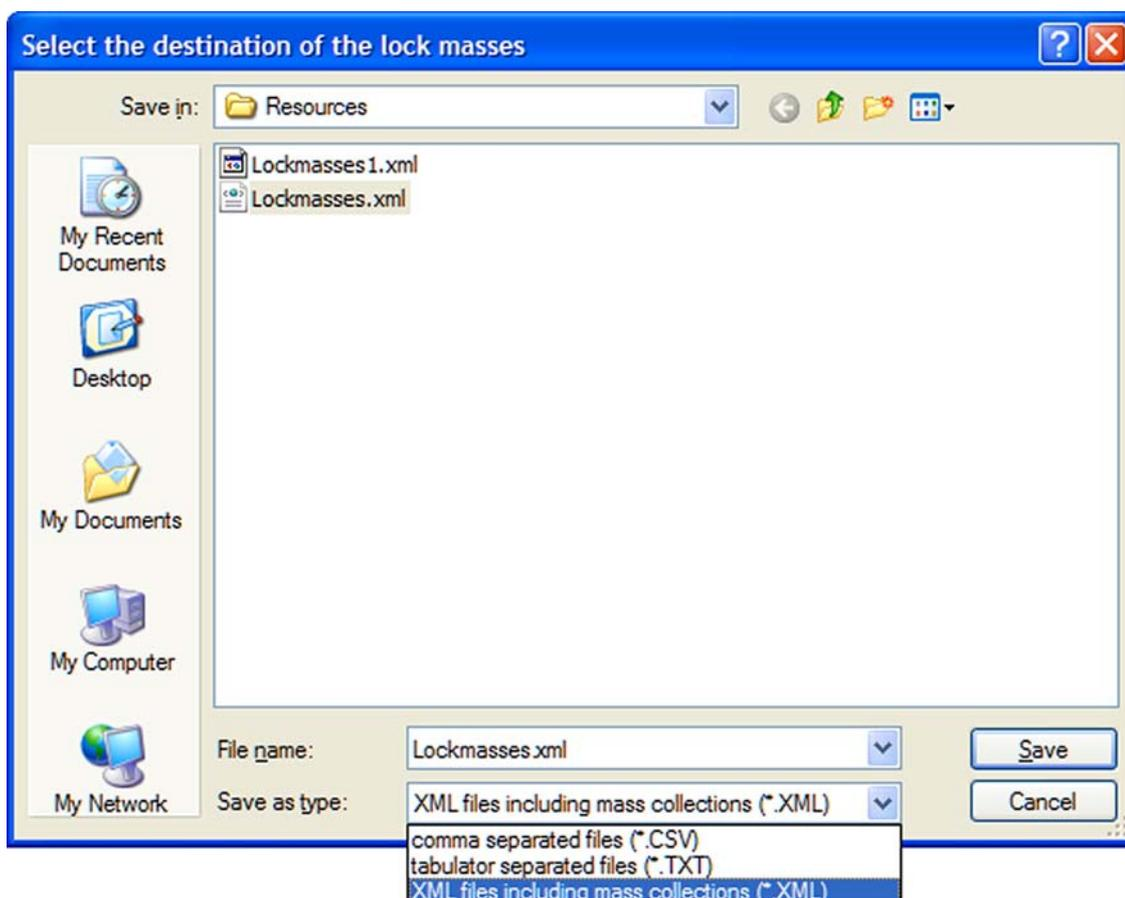

Figure 5-3. Selecting the lock mass export file
- 2. Choose **Export > Copy all to file** to open the file selection dialog box. See Figure 5-3.